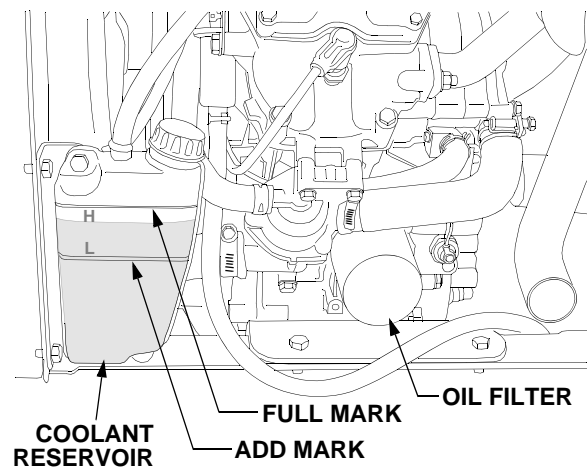

Figure 54
- Remove the filter by turning it counterclockwise using an automotive type filter wrench to loosen. See Figure 54.
- Raise the tractor hood and check the coolant level in the overflow reservoir on the *left* side of the engine. Refer to Figure 54.